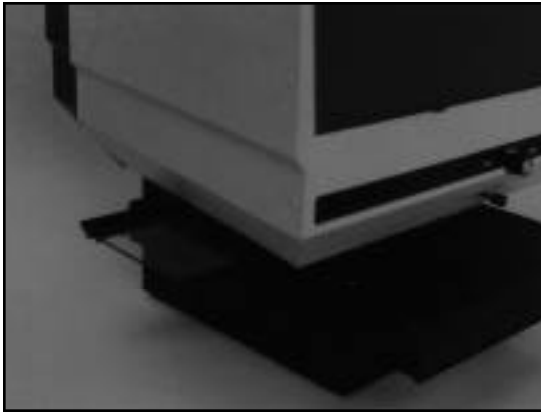

Figure 2
(Figures 2 & 3)
3. Remove the upper glass by gripping the black extrusion and lifting up and out (Figure 2).